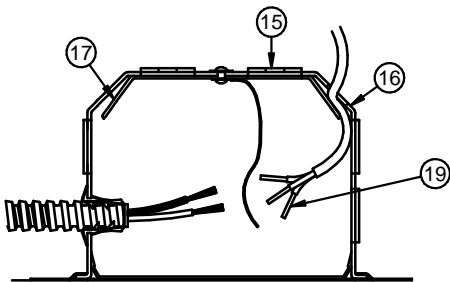

FIG. 4
3. Locate Housing along Bar Hanger in desired position and, using pliers, squeeze the 4 Locking Tabs (12) on the Plaster Frame (13) tightly over the Bar Hangers to prevent further Housing movement. Screws (1) are provided that can be tightened to lock Housing on the Hanger Bars.
4. As desired, hanger bars (6) may be shortened at score mark to fit tight mounting conditions and joist alignment tabs removed to adjust vertically as needed by breaking off with pliers.
5. Unsnap Junction Box Cover (14) by lifting the Leaf Spring (24).
6. Run supply wires through UL Listed connectors (not supplied) in one of the five Pryouts (15) on the Junction Box (16) or Type NM cable (ROMEX) through an Opening above the Wire Retaining Plate (17). Connect Supply Wires (19) as shown in Fig 4 & 5. Replace Cover.